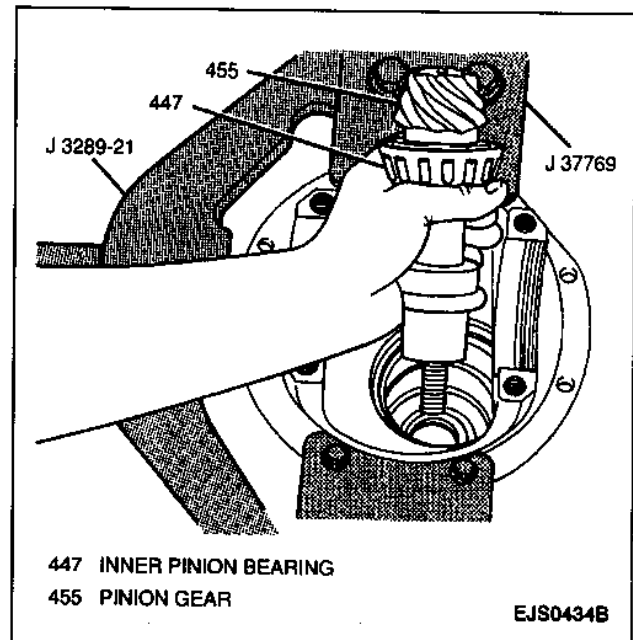

Figure 43—Removing Pinion Gear
12. Pinion gear from differential carrier (Figure 43).